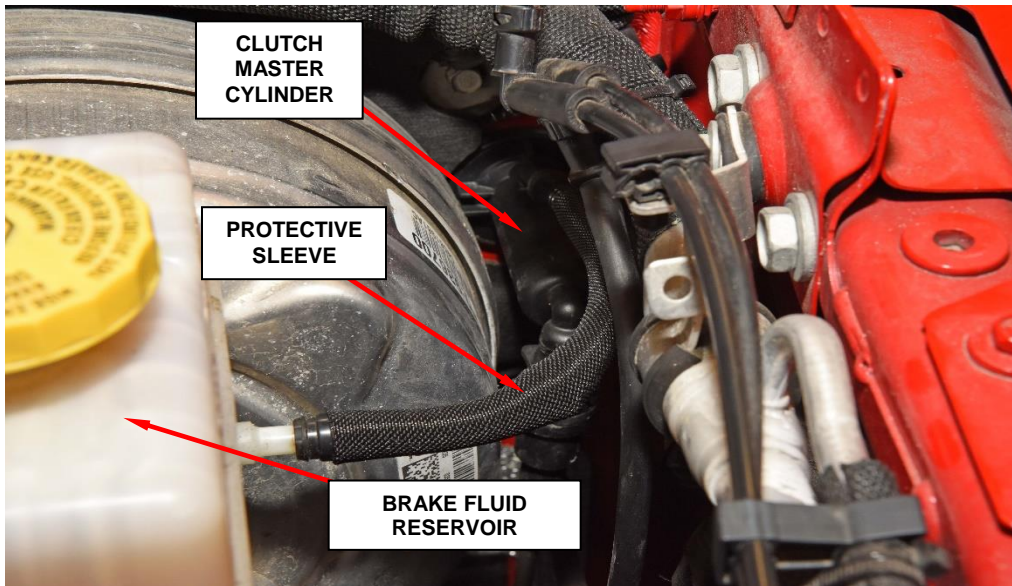

Figure 2 – Hose Sleeve Installed
3. Install the protective sleeve on the low pressure reservoir hose, **making sure it is installed close to the clutch master cylinder inlet tube** (Figure 2).